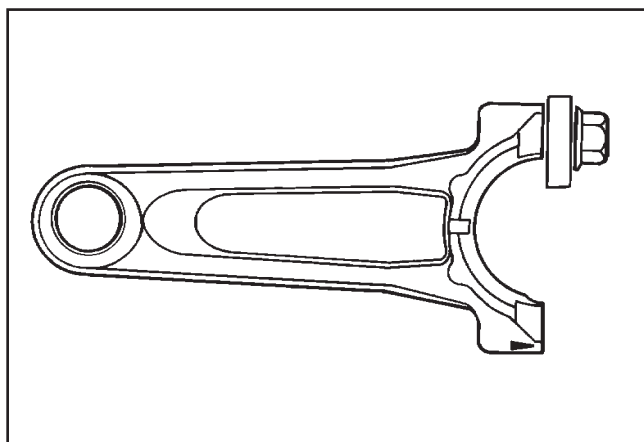

Figure 2-2. Rocker Arm/Crankshaft Tool.
4. Use a flat washer with the correct I.D. to slip on the capscrew and approximately 1" O.D. (Kohler Part No. **12 468 05-S**). Assemble the capscrew and washer to the joint surface of the rod, as shown in Figure 2-2.